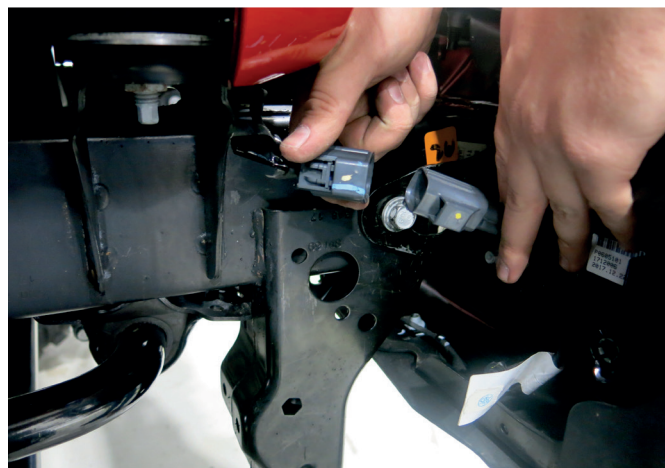

Fig. 6
6. Disconnect the fog light wire harness (Fig. 6).